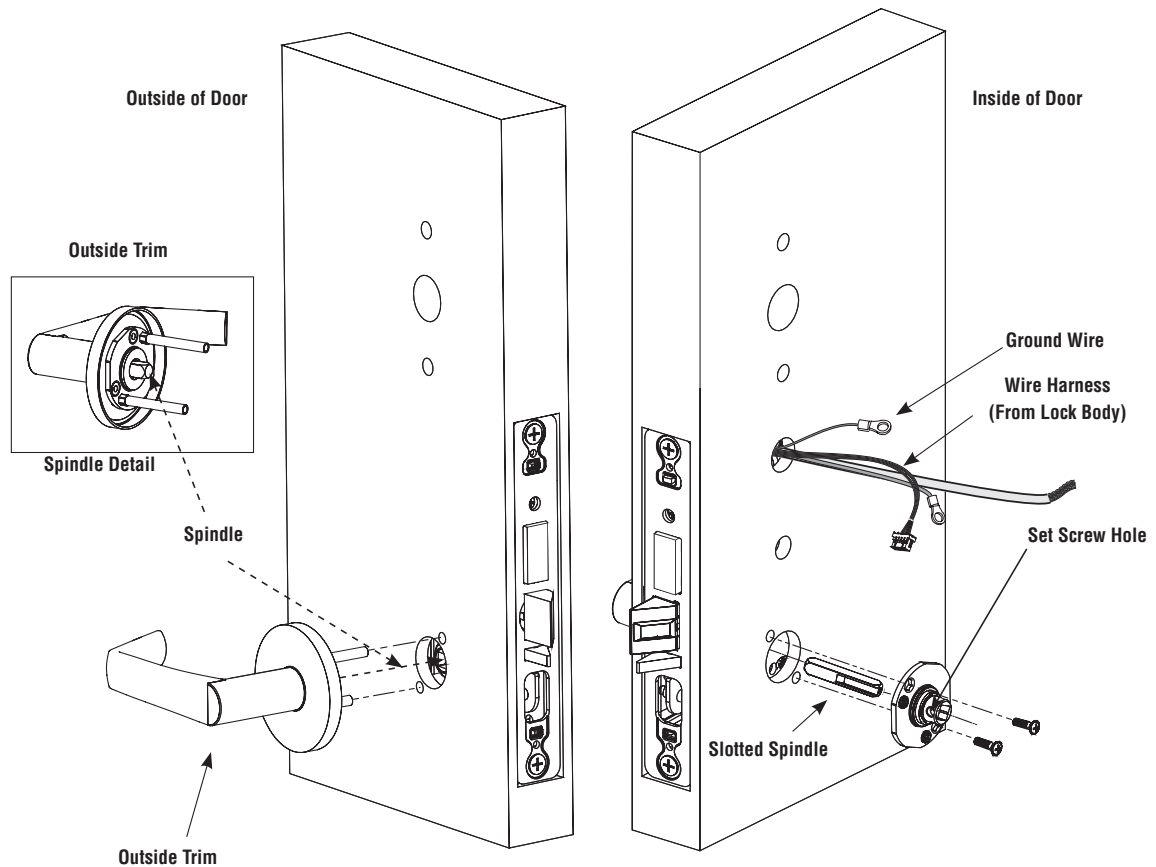

Fig. 4
2. Make certain the lever spindle is properly engaged inside the lock body (See Figure 4).
3. On the inside of the door, insert spindle into square hole of mortise lock (See Figure 4).
4. Slide inside adapter and plate assembly over spindle and secure with (2) 8-32 X 5/8" Phillips oval head and lock washer machine screws.
The slot in the spindle must face away from door (See Figure 4), and is oriented to match location of hole in inside lever handle.